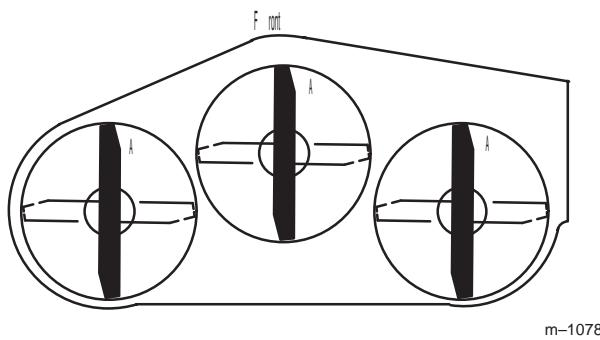

Figure 62
1. Rotate the blades until the ends face forward and backward (Fig. 62). Measure from a level surface to the cutting edge, position A, of the blades (Fig. 63). Note this dimension.